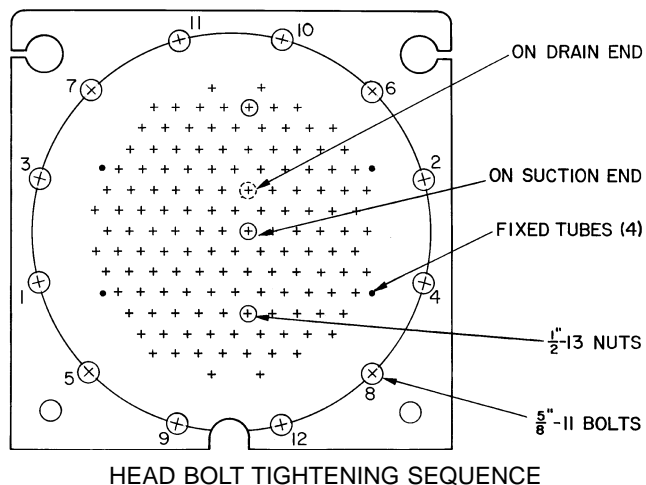

Fig. 25 — Typical Tube Sheet
Bolt Tightening Sequence (Fig. 25) — The recommended bolt tightening sequence is:
- Step 2** — Following sequence shown in Fig. 25, tighten the bolts and nuts to approximately 50% of specified torque.